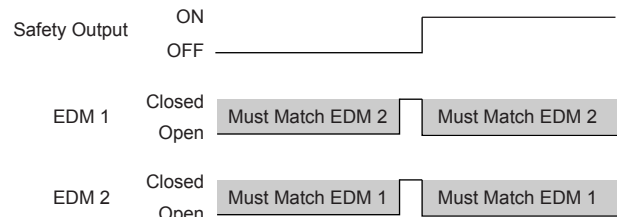

Figure 41. Timing logic: Two-channel EDM status, with respect to Safety Output
- **Two-Channel Monitoring**—An independent connection of closed monitor contacts that are forced-guided (mechanically linked) from each device controlled by the Safety Controller. Both EDM inputs must be closed before the Safety Controller can be reset and the OSSDs can turn On. While the OSSDs are On, the inputs may change state (either both open, or both closed). A lockout occurs if the inputs remain in opposite states for more than 250 milliseconds. See Figure 41 on p. 58.